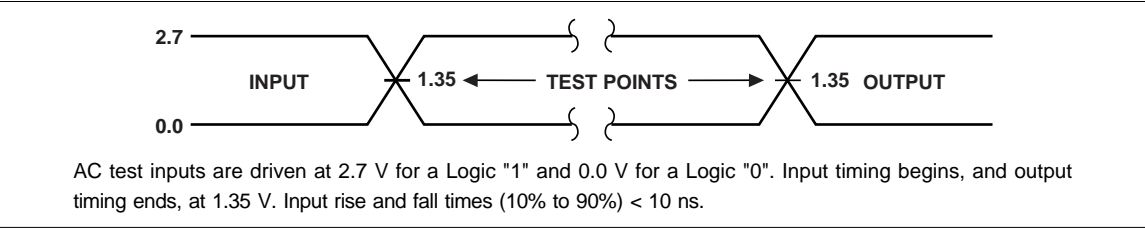

Fig. 7 Transient Input/Output Reference Waveform for Vcc = 2.7 to 3.6 V
1. See AC Input/Output Reference Waveform (**Fig. 7 through Fig. 9**) for maximum allowable input slew rate.